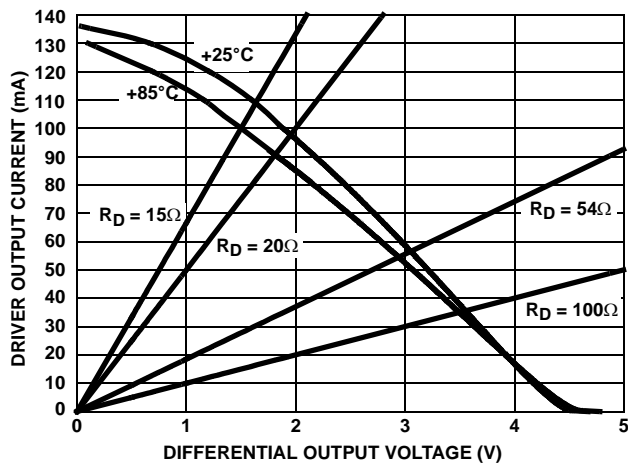

FIGURE 8. DRIVER OUTPUT CURRENT vs DIFFERENTIAL OUTPUT VOLTAGE
13. See Figure 8 for more information, and for performance over temperature.